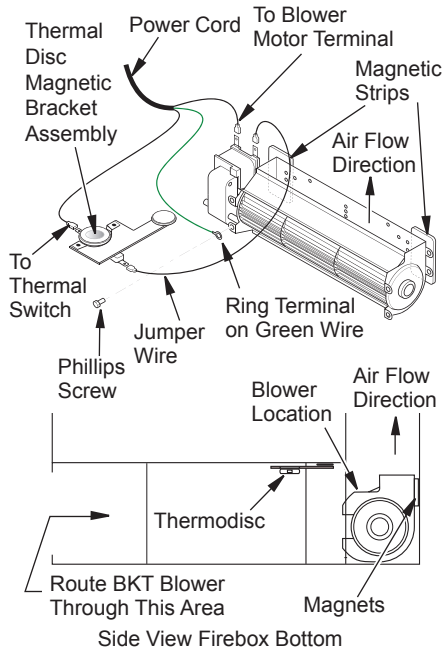

Figure 29 - Blower Model BKT
1. Attach green ground wire from power cord to blower housing using screw provided (see Figure 29) Tighten screws securely with a Phillips screwdriver.
3. Place the blower against the lower rear wall of the firebox outer wrapper with the exhaust port directed upward. Attach Thermal disc magnetic bracket to the bottom of the firebox sub-floor. The thermo-disc must be oriented near the fireplace bottom as shown in Figure 29, in order to sense temperature and properly operate. The blower will be held in position against the back wall by the magnets incorporated onto the blower housing (see Figure 29).